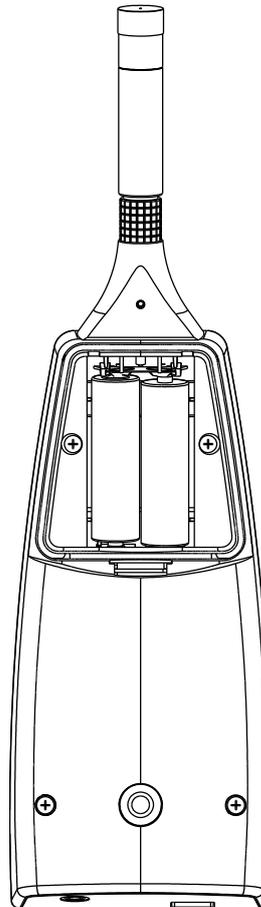

Figure 1.2: Open battery compartment
- Insert the new batteries paying attention to the polarity (figure 1.2)